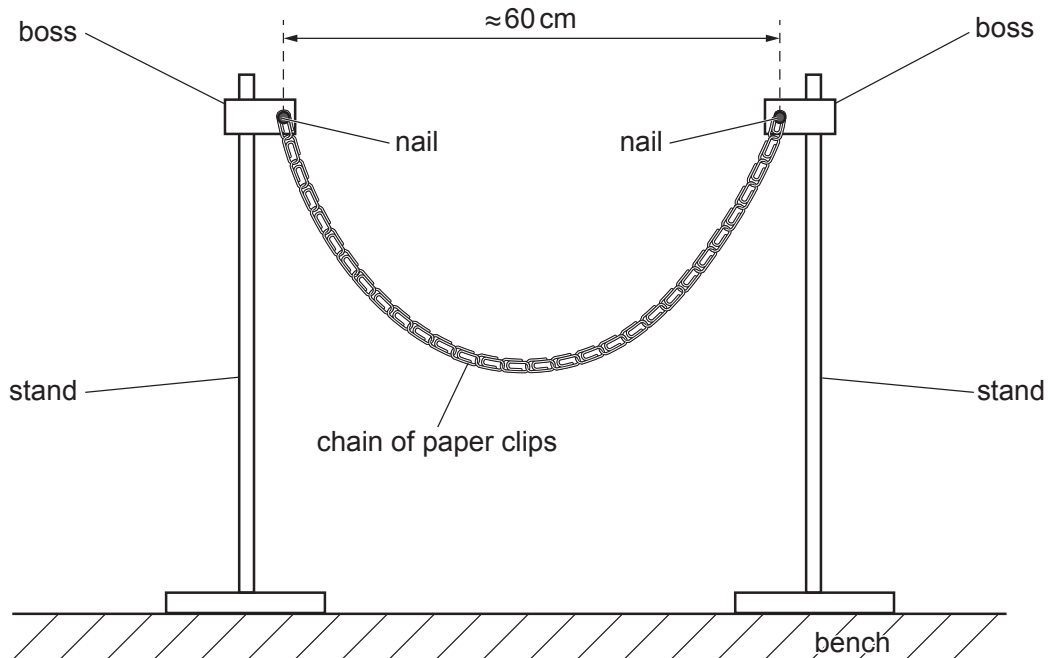

Fig. 1.1
- (a) (i) • Assemble the apparatus as shown in Fig. 1.1 with each nail held securely in a boss and at the same height above the bench. Position the stands so that the distance between the nails is approximately 60 cm.